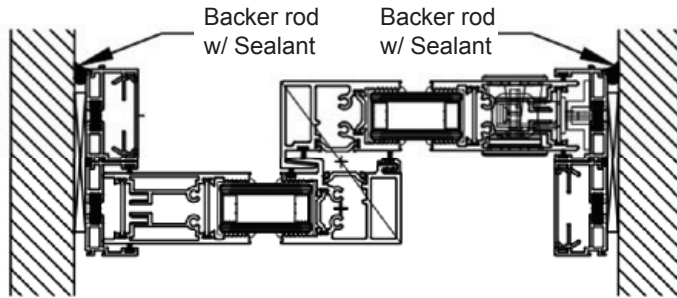

FIGURE 1
14. Apply backer rod and compatible sealant to the interior joint between the frame and the rough opening as shown in Figures 1 & 2.